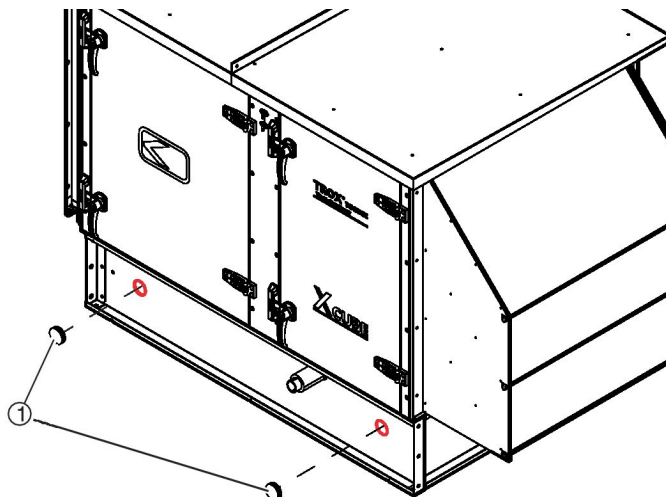

Fig. 26: Fitting plugs
- ▶ Seal the transport openings in the base frame of the air handling unit with the plugs ( Fig. 26 /1) provided.